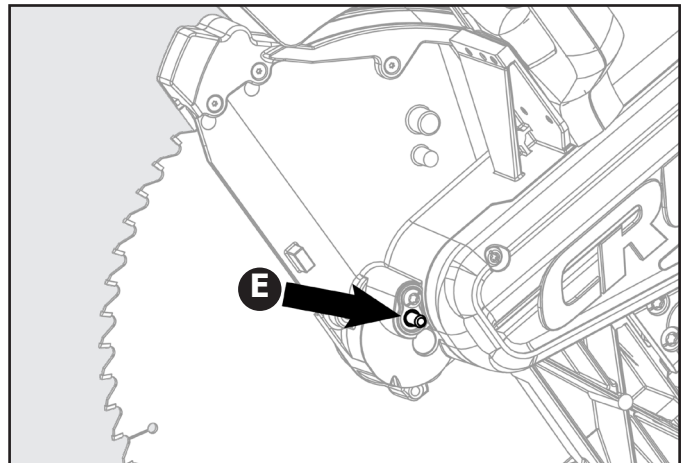

Figure 13
7. Press the spindle lock button (E). See figure 13.
9. Align the double "D" flats on the blade washer (F) with the flats on the spindle and fit the washer onto the spindle.
10. Lock the spindle by depressing the spindle lock button. Screw on the blade bolt (D), remembering to thread it counter clockwise. Tighten blade bolt securely using the provided blade wrench.